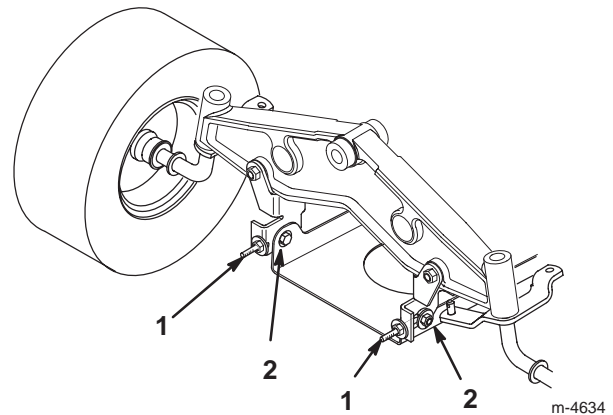

Figure 50
12. To adjust the front-to-rear blade slope, loosen the front pivot plate mounting bolts slightly (Fig. 50).
13. Rotate the locknuts on the eye bolts to change the adjustment (Fig. 50). To raise the front of the mower, tighten the eye bolt locknuts. To lower the front of the mower, loosen the eye bolt locknuts.
15. When the front-to-rear slope is correct, tighten the pivot plate mounting bolts (Fig. 50).